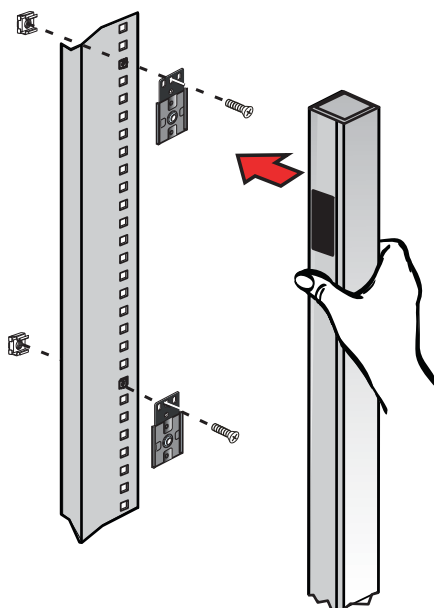

Figure 22. Attaching the Clip Feet and Cage Nuts
3. **ePDU in line with the rail.** Position and lock two cage nuts far enough apart to stabilize the top and bottom of the ePDU when mounted on the rail. Insert the cage nuts with a flat-blade screwdriver (see Figure 22).